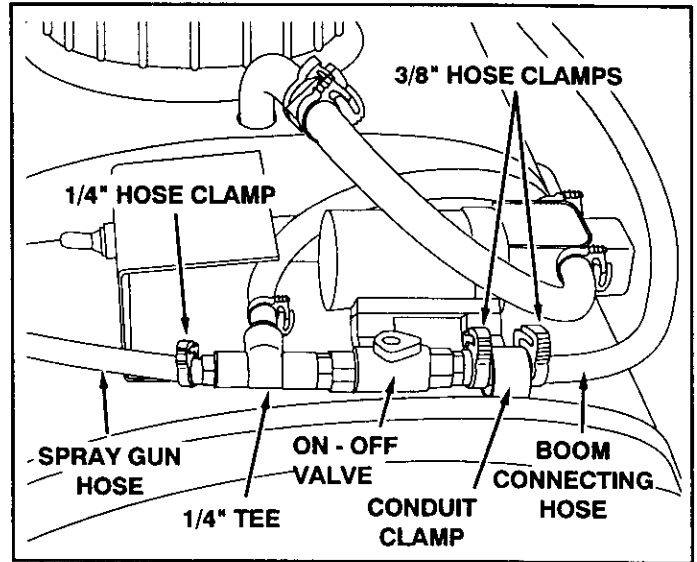

FIGURE 9 VIEWED FROM FRONT
- Slide a 3/8" hose clamp onto the boom connecting hose. Place the end of the hose through the conduit clamp (attached to the pump) and then slide a second 3/8" hose clamp onto the hose. Leave hose clamps loose for now. See Figure 9.
- Push the hose onto the hose adapter in the end of the "On-Off" valve. Tighten the hose clamp around the hose and adapter. See figure 9.
- Position the valve and hose clamp up against the conduit clamp. Slide the other hose clamp against the other side of the conduit clamp. Tighten the clamp without collapsing the hose. See figure 9.
- Slide the 1/4" hose clamp onto the spray gun hose and then push the hose onto the hose adapter on the 1/4" tee fitting. Tighten the hose clamp around the hose and adapter. See figure 9.